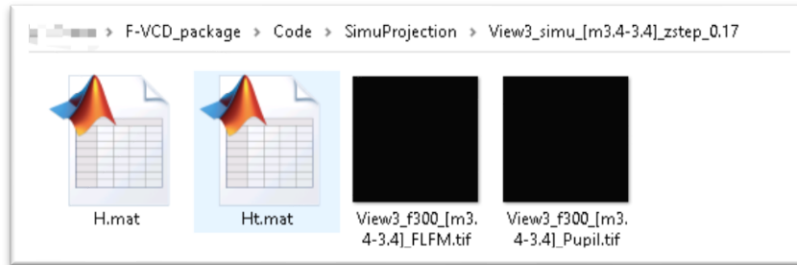

Fig. 2 Simulated light-field PSF
- ii. After calculation, the PSF matrixes are automatically saved in the corresponding folder, e.g. ‘View3_simu_[m3.4-3.4]_zstep_0.17’ which contains ‘H.mat’ for forward projection and ‘Ht.m’ for deconvolution as shown in Fig. 2.